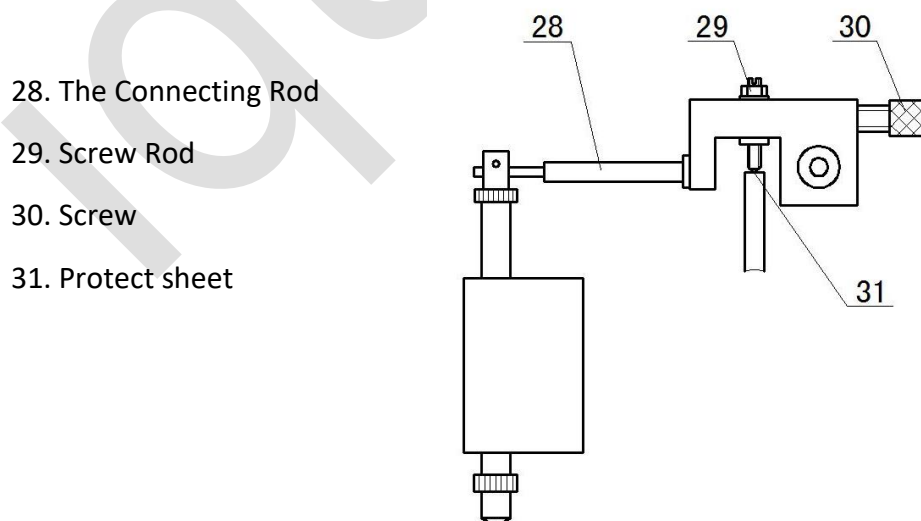

Fig. 6-2
6. The Rockwell Hardness Value Regulated (Fig 6-2)